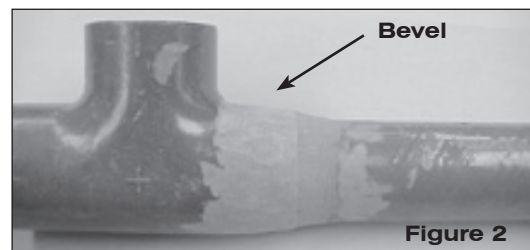

Figure 2
2. Bevel the shoulder of the bell with the grinder to blend it in with the pipe wall, i.e. there must be a smooth slope from the raised coupling, pipe bell end, or fitting to the pipe wall (see Fig. 2). In cases where it is not practical to do this much grinding, you can make a smooth transition between the two diameters by using one can of 8069 adhesive and hardener and two 8069 filler kits as a putty. This putty can be applied at the edge of the bell to form a slope which removes the step between the coupling, pipe bell end, or fitting and the pipe. The length (distance along the axis) of this putty compound should be held to a minimum, because the putty has limited pressure capabilities and is used only to ensure that the glass cloth is not laid over a sharp break in contour. Usually, 3/4" of tapered putty slope is sufficient.